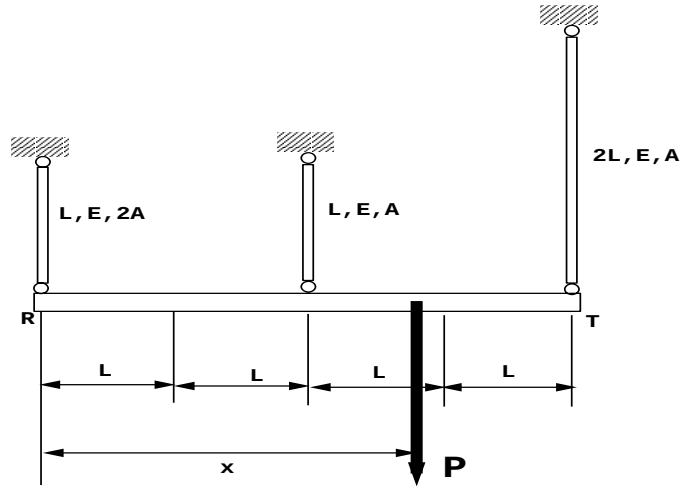

Figure 5: Problem 3
3. (10pts) A rigid beam RT is supported by three steel rods as shown in Figure 5. A point load P is applied at location x on the beam RT. Assume that gravity effects can be neglected and the three bars display linearly-elastic behavior. Young's modulus of elasticity E , the cross sectional area A and the length L of the three bars are indicated in the figure, respectively. While the three rods are elastic, find the position x so that the beam remains horizontal.